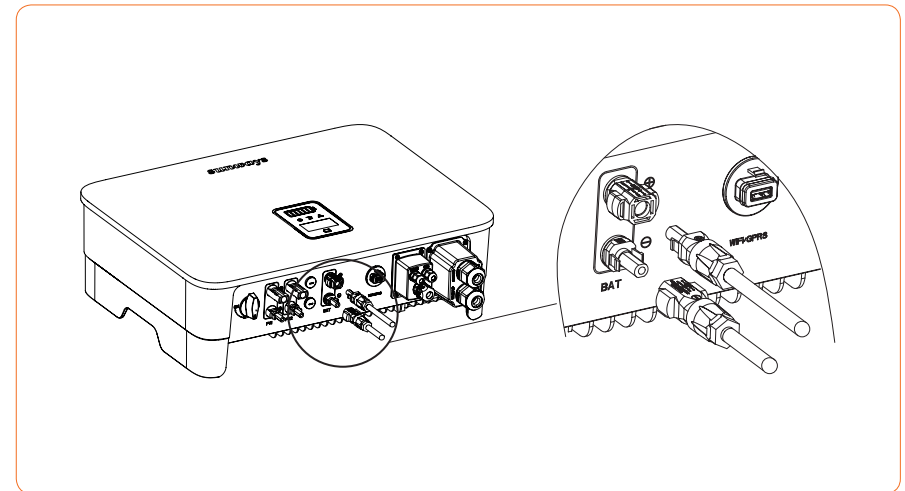

Figure 4-26
- ① Before making the battery connector, please make sure the polarity of the cable is correct.
- ② Use a multimeter to measure the voltage of the battery pack and make sure the voltage is within the inverter limitation and the polarity is correct.
⑥ Insert the positive and negative connector into the inverter battery terminals respectively, and a “click” sound represents the assembly in place, as shown in Figure 4-26: